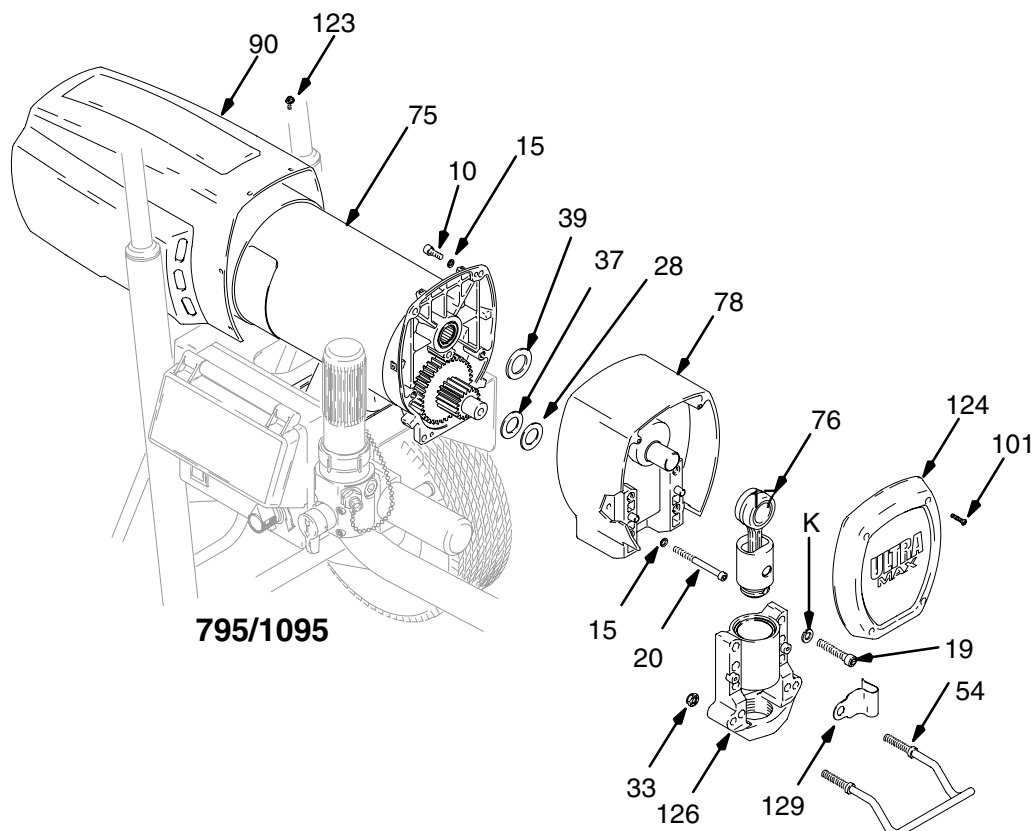

Fig. 15
- Remove pump (79); **Displacement Pump Replacement**, page 23.
- Fig. 15. Remove four screws (39) and remove shroud (90).
- Remove four screws (104) and washers (17).
- Remove four screws (40) and front cover (100).
- Remove two nuts (33), pail hanger (54) and spring clip (95).
- Remove two screws (105) and washers (17).
- Pull drive housing (78) off of motor (75).
- Slide connecting rod (76) out of drive housing.
- Slide connecting rod (76) into drive housing.
- Push drive housing (78) onto motor (75).
- Install washers (17) and two screws (105).
- Install spring clip (95), pail hanger (54) and two nuts (33).
- Install front cover (100) and four screws (40).
- Install washers (17) and four screws (104).
- Fig. 15. Install shroud (90) with four screws (39).
- Install pump (79); **Displacement Pump Replacement**, page 23.
- Fig. 15. Remove four screws (123) and remove shroud (90).
- Remove four screws (10) and washers (15).
- Remove four screws (101) and front cover (104).
- Remove two nuts (33), pail hanger (54) and spring clip (129).
- Remove four screws (19) and washers (17) and bearing housing (126) from drive housing (78).
- Remove two screws (20) and washers (15) and pull drive housing (78) off of motor (75).
- Slide connecting rod (76) out of bearing housing.
- Slide connecting rod (76) into bearing housing.
- Push drive housing (78) onto motor (75) and install with two washers (15) and screws (20).
- Install bearing housing (126) on drive housing (78) with four screws (19) and washers (17).
- Install spring clip (129), pail hanger (54) and two nuts (33).
- Install front cover (124) and four screws (101).
- Install washers (10) and four screws (15).
- Fig. 15. Install shroud (90) with four screws (123).